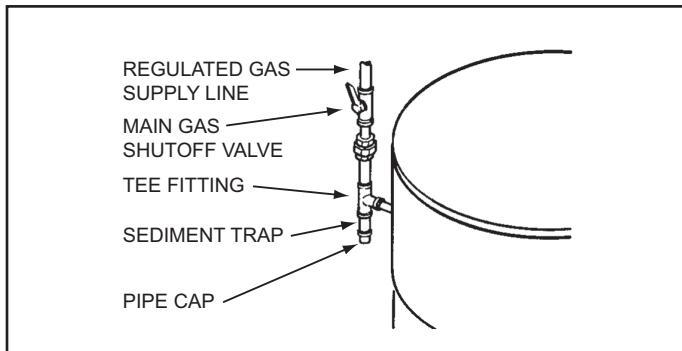

Figure 51. Supply Gas Line Installation
Ensure all gas pipe is clean on the inside before installation. To trap any dirt or foreign material in the gas supply line a sediment trap must be installed as shown in **Figure 51**. The sediment trap must be readily accessible and not subject to freezing conditions. Install in accordance with the recommendations of the local gas utility company.
7. Install a sediment trap as shown in *Figure 51* (page 43).
8. Install a Main Gas Shutoff valve in the supply gas line as shown in *Figure 51* (page 43).
1. For test pressures exceeding 1/2 psi (3.45 kPa) disconnect the water heater and its Main Gas Shutoff Valve from the gas supply piping system during testing. See *Figure 51* (page 43). The gas supply line must be capped when disconnected from the water heater.